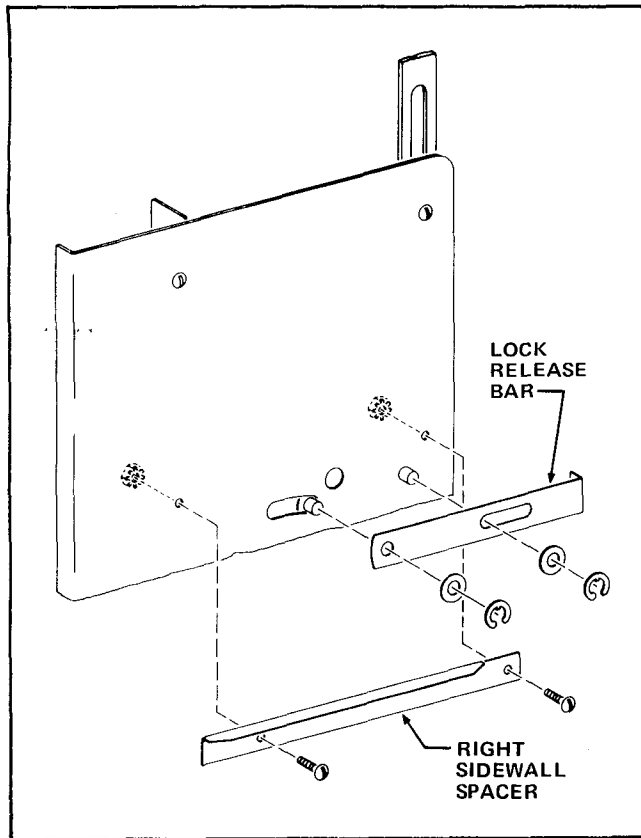

FIGURE 7-2
16. Remove two Retaining Rings, two Washers, and Lock Release Bar from the Right Sidewall. Retain the Lock Release Bar for use on the replacement Right Sidewall Final Assembly. See Figure 7-2.
17. Remove two No.8-32 Nuts with Lockwashers, two Spacer Rollers, two No.8-32 x 5/8 RHS Screws and the Right Sidewall Spacer from the Right Sidewall. Retain the Right Sidewall Spacer for use on the replacement Right Sidewall Final Assembly. See Figure 7-2.